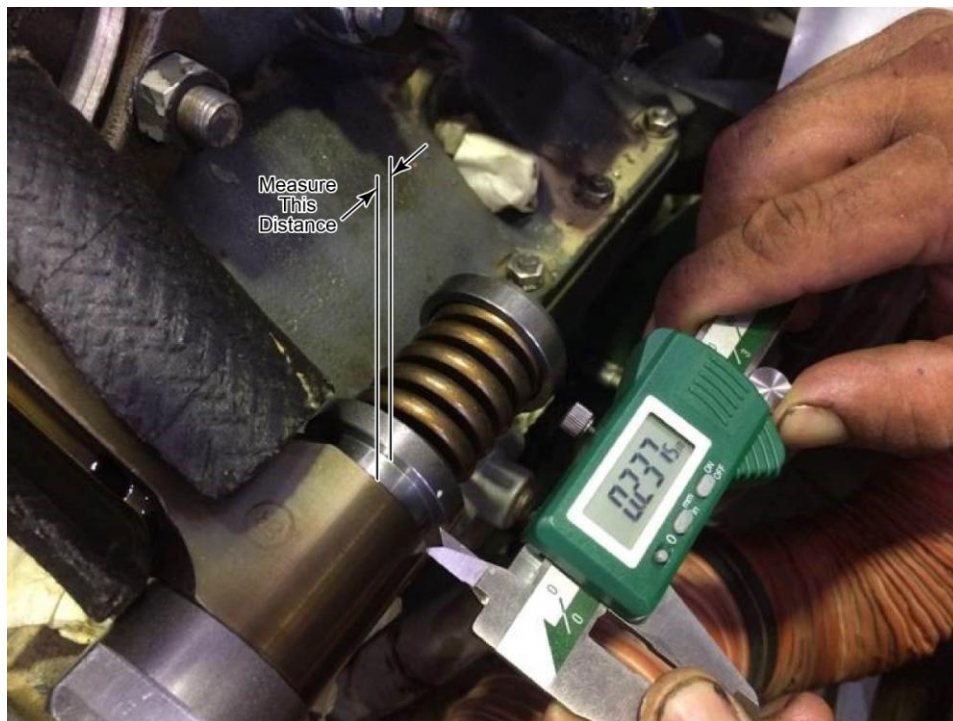

Figure 9
REASON FOR REVISION: Clarified MODELS AFFECTED; added NOTICE on page 1; clarified Steps 1.B and 4.B in “Required Action”; under the “Connecting Rod Bushing Press-Out Verification Procedure” - deleted Step 1 (reference to SB-630), added new Steps 7, 9, and 10 and new Figure 9 for better measuring procedure for indication of bushing movement, clarified the NOTICE after Step 11.A.(2) on page 5; added text to “use new seals and gaskets” in Steps 11.A.(4) and 11.B.(2) on pages 5 to 6; added IO-580 and AEIO-580 engine models to row for LW-12034 in the Top Overhaul Gasket Kit table on page 9
7. Measure the distance from the collar on the center section of the ST-531 to the edge of the connecting rod (Figure 9).
9. Re-measure the distance from the collar on the center section of the ST-531 to the edge of the connecting rod (Figure 9).